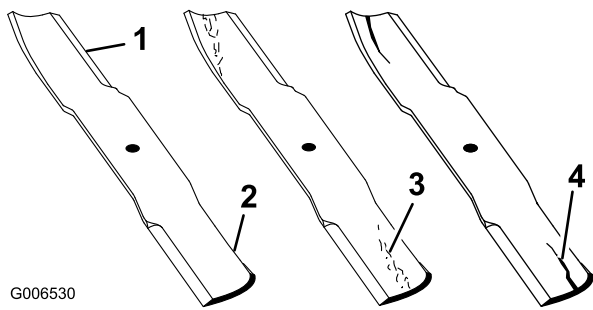

Figure 94
1. Inspect the cutting edges (Figure 94). If the edges are not sharp or have nicks, remove and sharpen the blades. Refer to Sharpening the Blades.
2. Inspect the blades, especially the curved area (Figure 94). If you notice any damage, wear, or a slot forming in this area (Figure 94), immediately install a new blade.